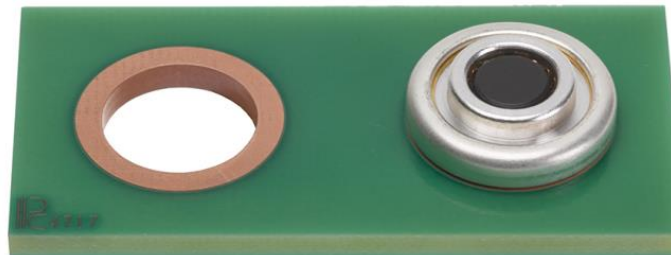

Figure 1
- 5. Lightly hand or pick and place the Sentrality socket into center of above verified hole making sure to not press the solder out of the way (see Figure 1 for reference)